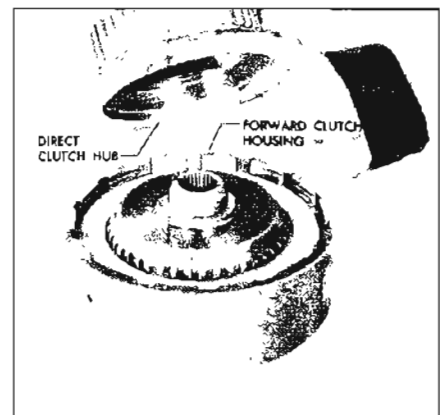

Figure 5-601
2. Remove the direct clutch hub. See Figure 5-601.